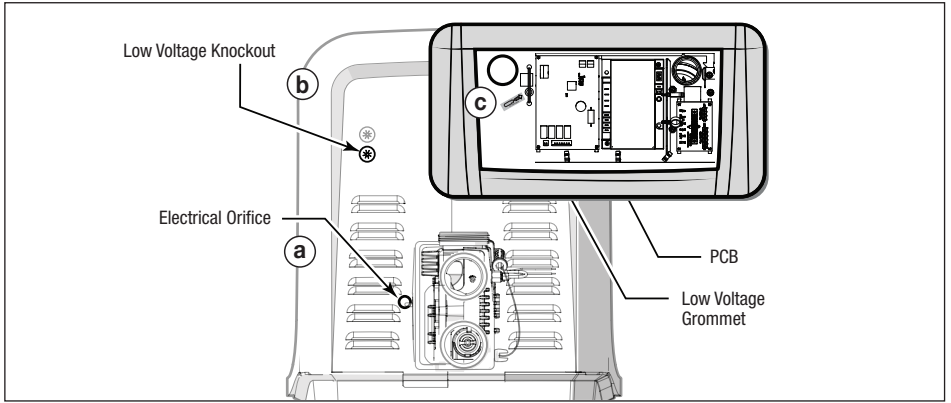

Figure 11. JXi Bypass Harness Routing
14. Pass the harness through the grommet at the low voltage raceway, see *Figure 11 (c)*.